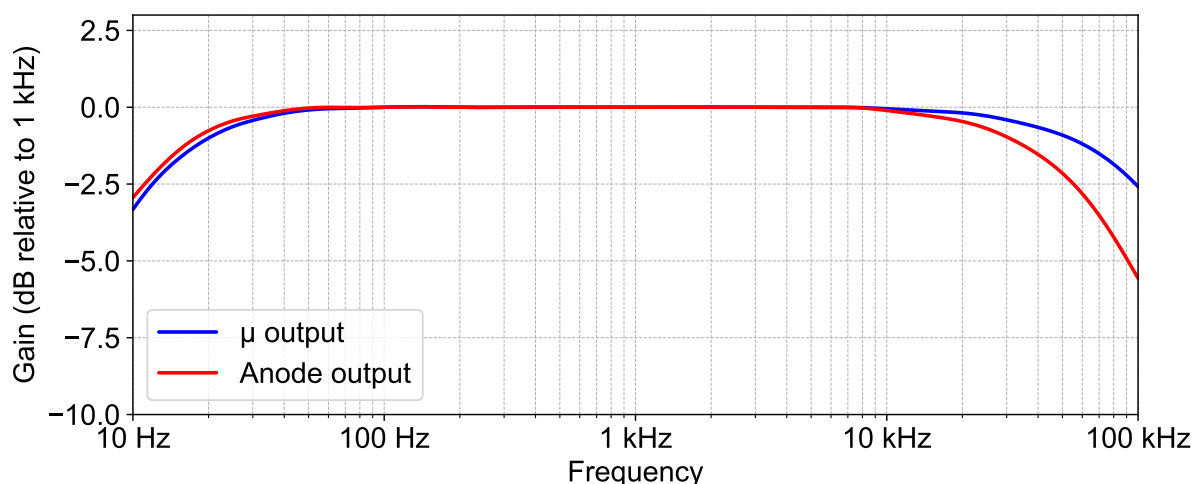

Figure 10: Frequency response, measured at 100 V_{RMS} output with a 100 pF load connected to the output.
- Frequency response with 100 pF load (Fig. 10):